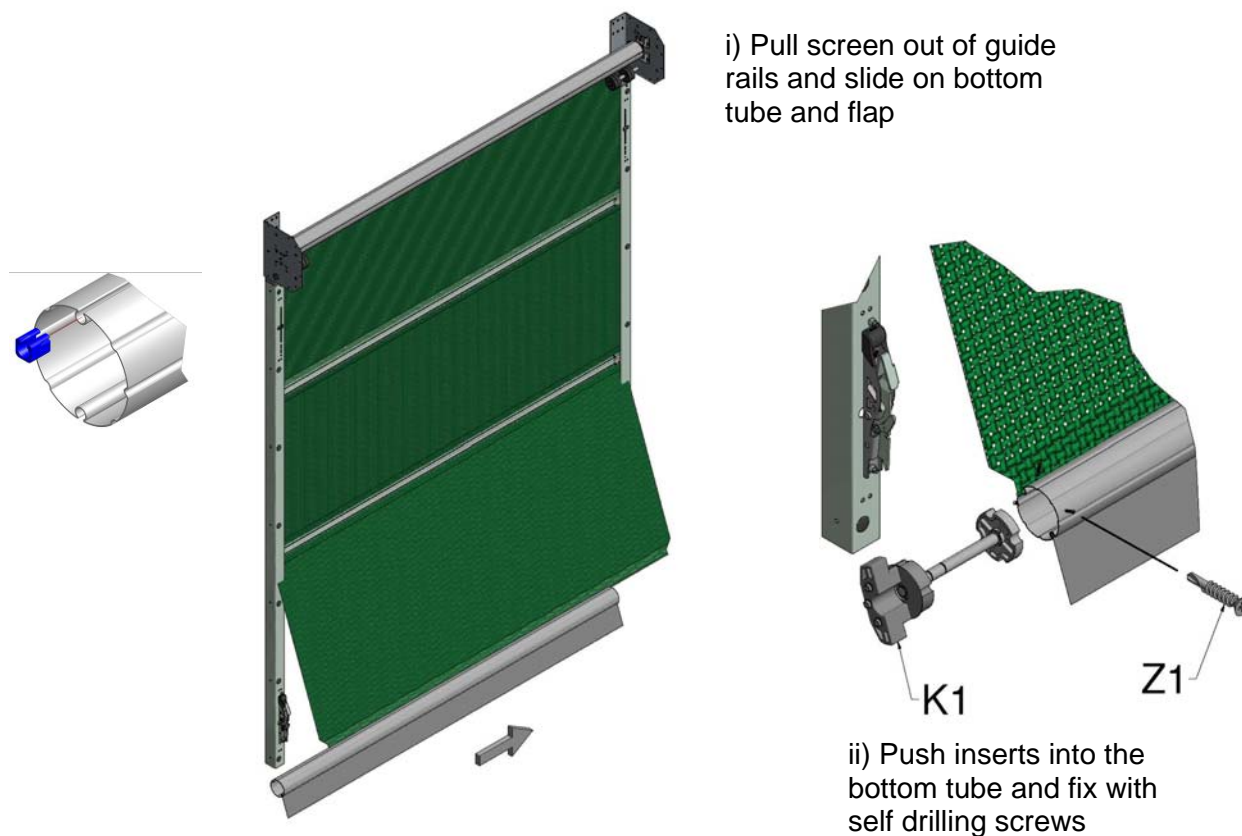

Figure 15b, Attaching Bottom Tube
14. Pull the bottom fabric panel outside the guide rails and slide on the bottom tube (Figure 15b), centralise and trim excess fabric in each corner as shown. Push the inserts (K1) into the tube, and fix using the M4 x 25mm self-drilling screws (Z1) supplied, secure flap with same self-drilling screws.